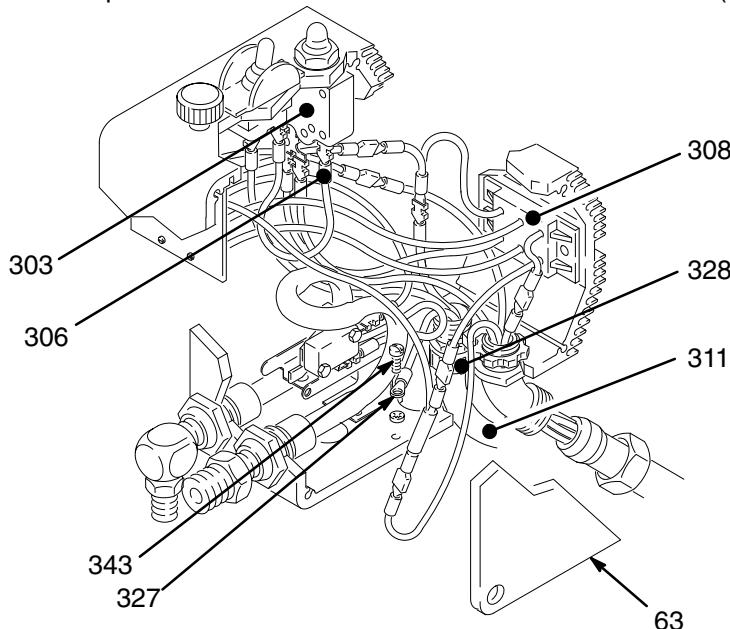
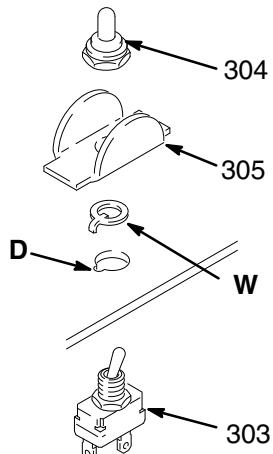

Fig 26-1
Fig 26-2
**NOTE:** Refer to Fig 26-1 for this procedure.
2. Remove the pressure control cover (63).
3. Disconnect the power supply cord lead from the ON/OFF switch (303), the white wire going to the bridge (308), and the green wire to the grounding screw (343).
4. Loosen the strain relief bushing (328). Remove the power supply cord (311).
5. Install the new cord (311) in the reverse order.
**NOTE:** Refer to Fig 26-2 for this procedure.
3. Disconnect the upper terminal wire from the microswitch (302) and the two black wires from the ON/OFF switch (303). See Fig 26-1.
4. Using a 5/8 in. socket wrench, remove the nut and rubber boot (304). Remove the switch guard (305).
5. Remove the ON/OFF switch (303).
6. Install the new switch so the internal tab of the anti-rotation ring (W) engages with the vertical groove in the threads of the switch, and the external tab engages with the blind hole (D) of the pressure control box.
7. Install the switch guard (305), aligning the internal tab with the groove in the threads.
8. Powder the inside of the rubber boot (304) with talcum powder, then shake the excess out of the boot.